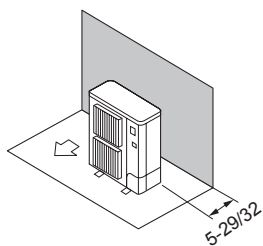

Fig. 2-5
① Obstacles at rear (Fig. 2-5)